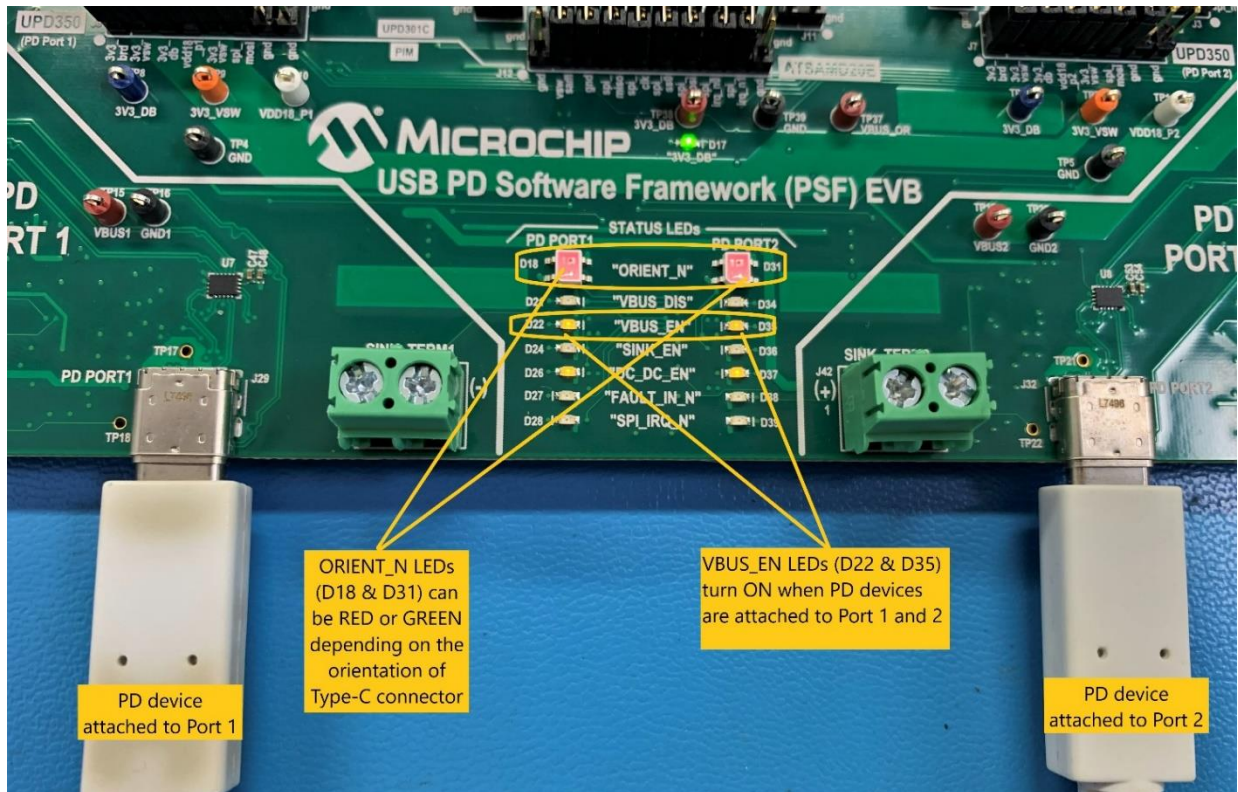

Figure 7.2 Status of ORIENT_N,VBUS_EN LED after device attach
4. Once an explicit power contract negotiation is in place, the device starts charging. PDO status LEDs will turn ON indicating the negotiated voltage as shown in Figure 7.2
5. In our case, PD Capable Phone connected in Port 1 has requested 9V and PD Capable Phone connected in Port 2 has requested 5V. The status of ORIENT_N, VBUS_EN LED after device attach are shown in Figure 7.2